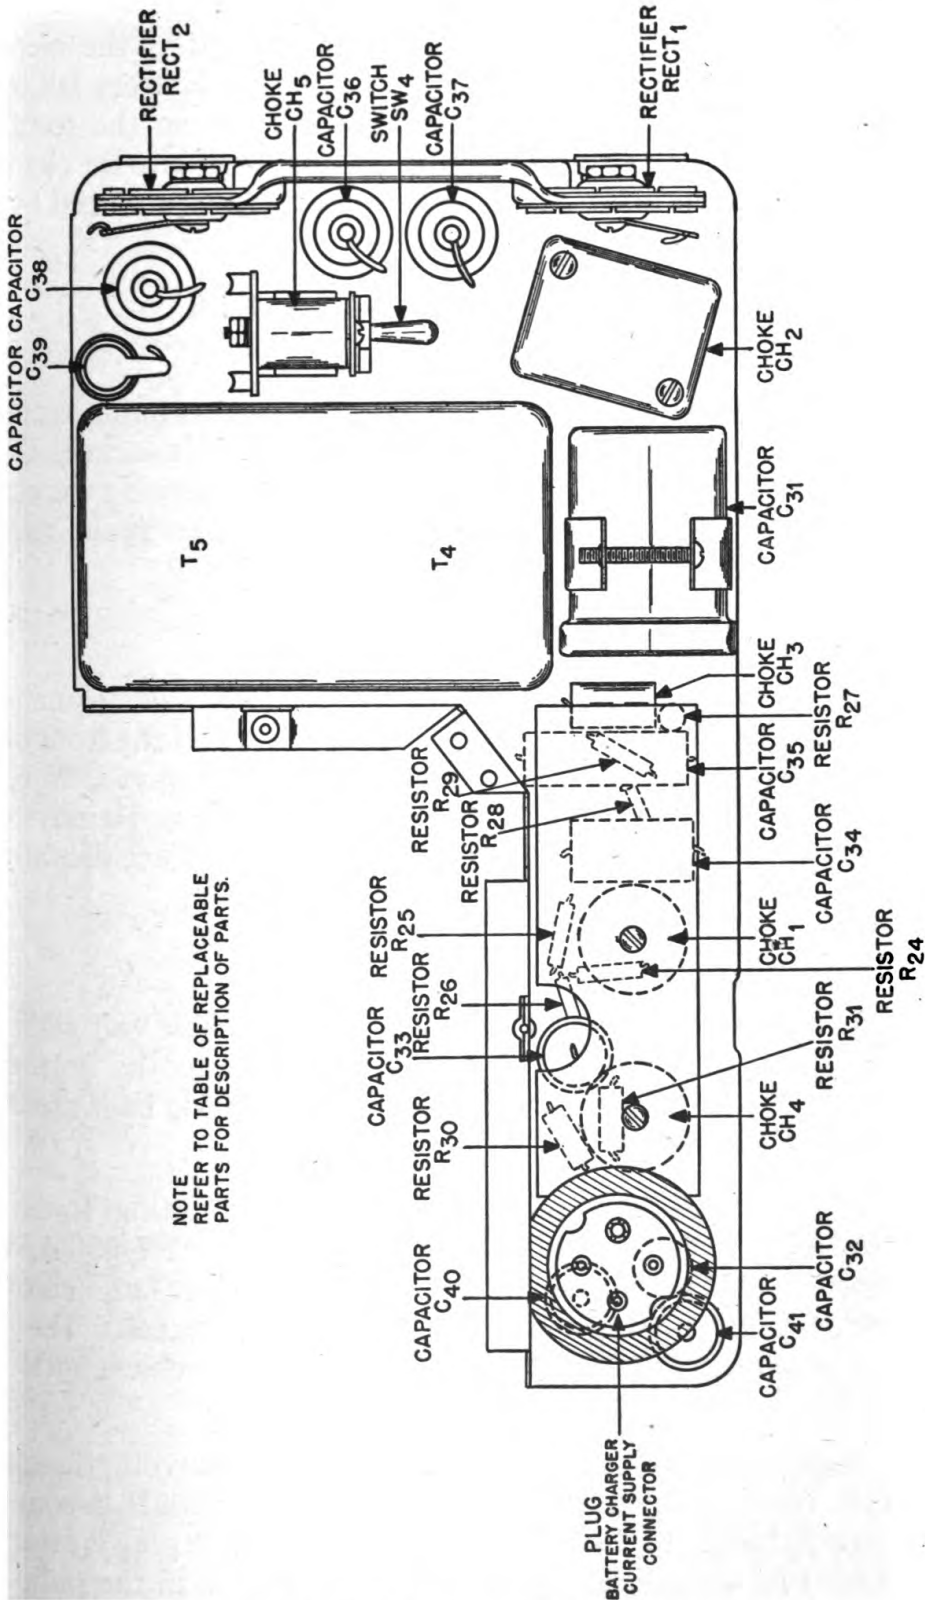

FIGURE 16—RADIO RECEIVER BC-728-A, POWER SUPPLY—BOTTOM VIEW—SHOWING MAJOR PARTS
b. Battery Charging Circuit.—A circuit is employed in the power supply for the purpose of charging Battery BB-54-A from an external vehicular battery of 6 or 12 volts. Refer to schematic diagram, Figure 16, for plug connections used when charging Battery BB-54-A. Switch (SW₄) must be in the proper position for the particular voltage used in charging. This switch is actuated by the plug on charging Cord CD-618-A. The voltage used for charging is applied to the primary winding of the charging transformer (T₅). Vibrator (VB₂) in the primary circuit of the transformer alternately applies voltage first to one side and then to the other of the primary winding, producing an a-c voltage in the secondary winding of the same trans-